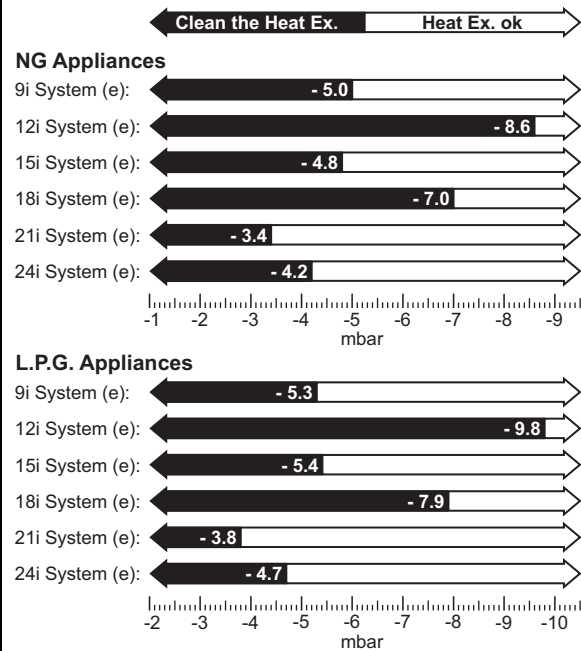

Fig. 63 Fan pressure readings
- ▶ The pressure will read negative, refer to the chart in figure 63.